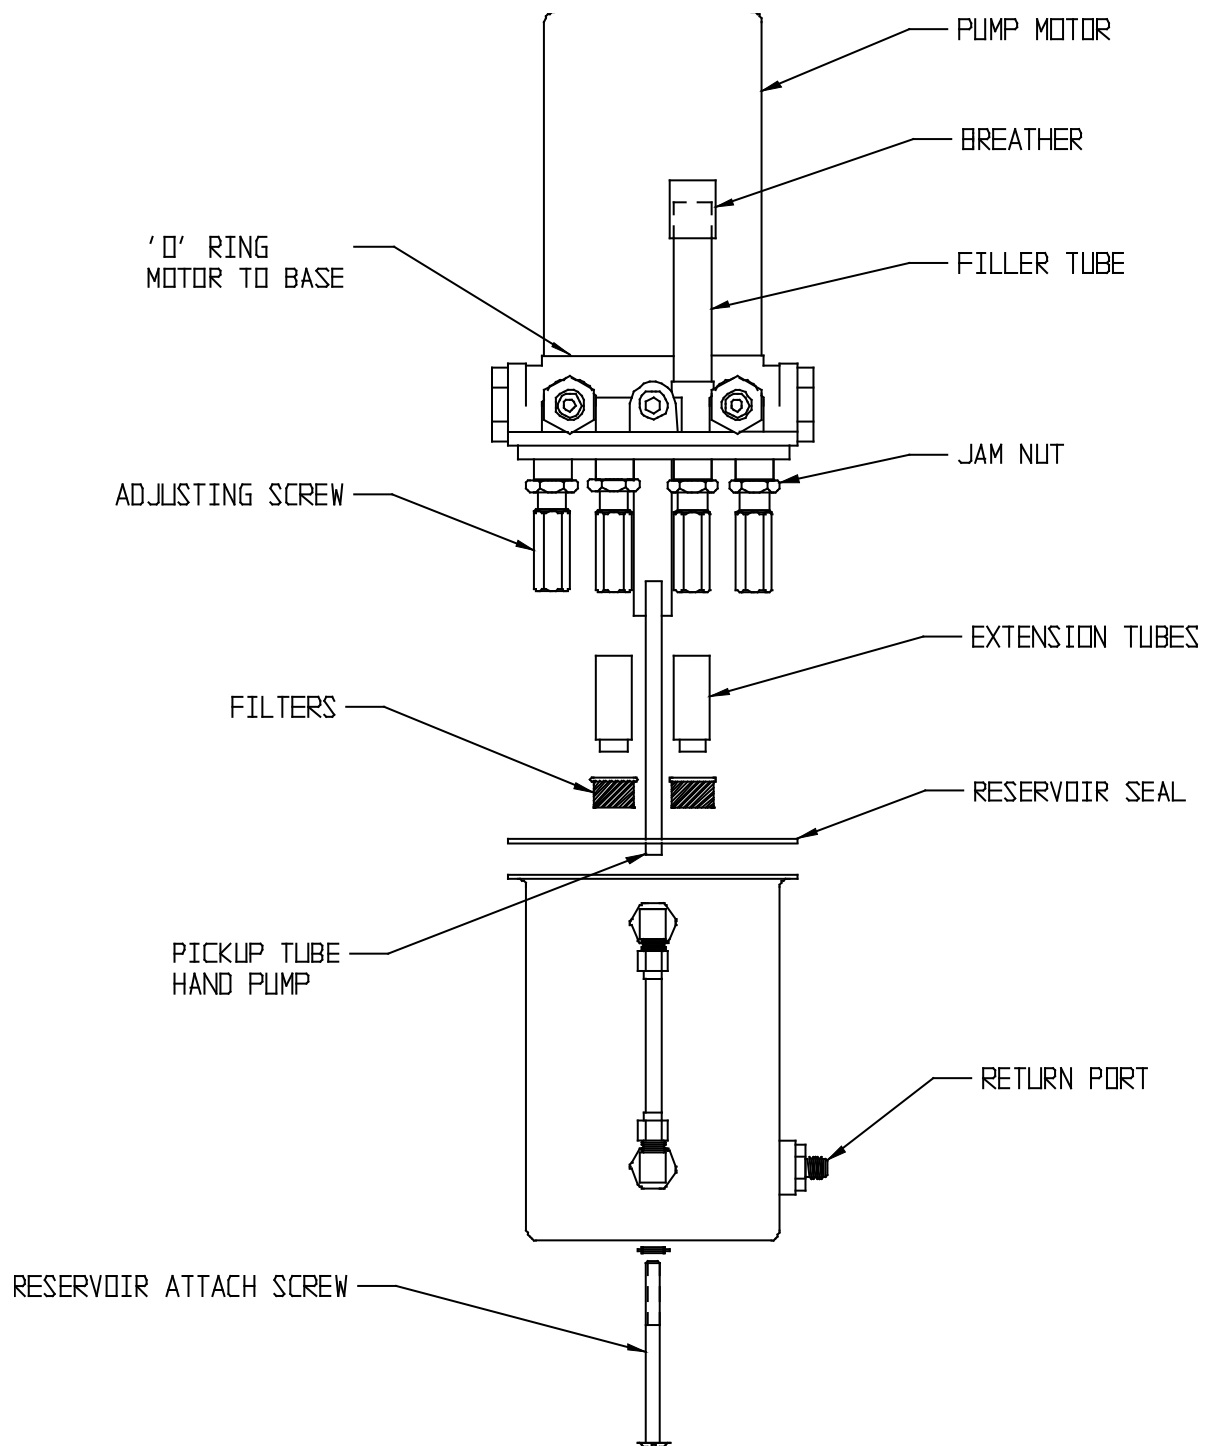

FIGURE 8-1 HYDRAULIC PUMP
3. After tank removal, pick up filters to be pulled off (friction fit) and cleaned. (Refer to Figures 8-1 & 8-2.)